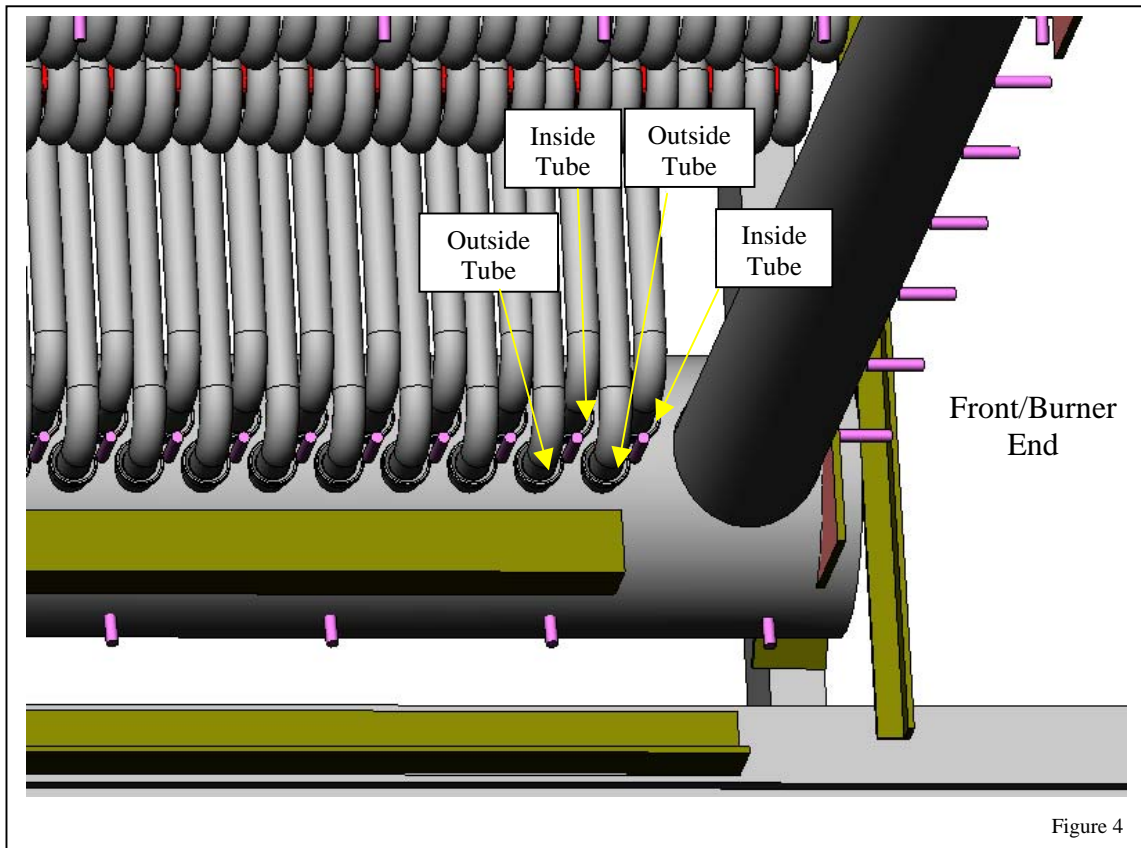

Figure 4
- 1.7 (KD3 only) Next, install an inside tube (long neck down). Then install an outside boiler tube (short neck down.) Repeat this process until all boiler tubes are installed. See Figure 4.